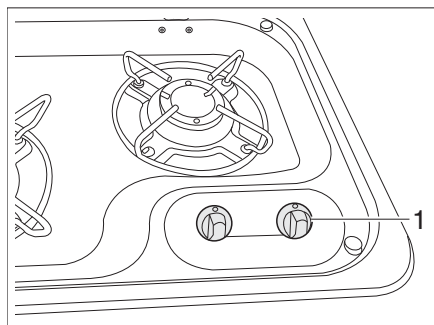

Fig. 108 Operating controls for gas cooker
- Turn the control knob (Fig. 108,1) on the burner you wish to use to the ignition position (large flame).
- Turn the control knob (Fig. 108,1) to the 0-position. The flame fades.